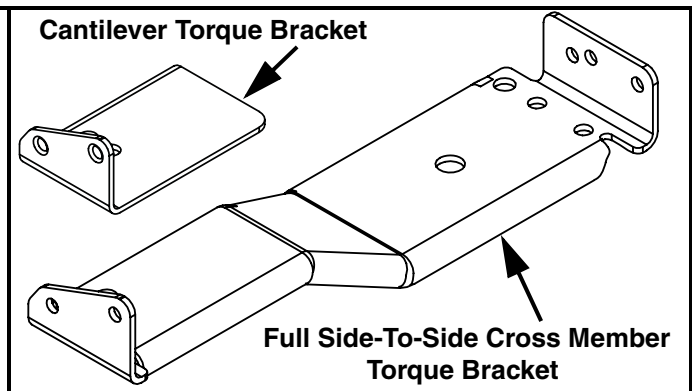

FIGURE 2
3. The existing torque bracket is a full side-to-side cross member style as shown in Figure 2.